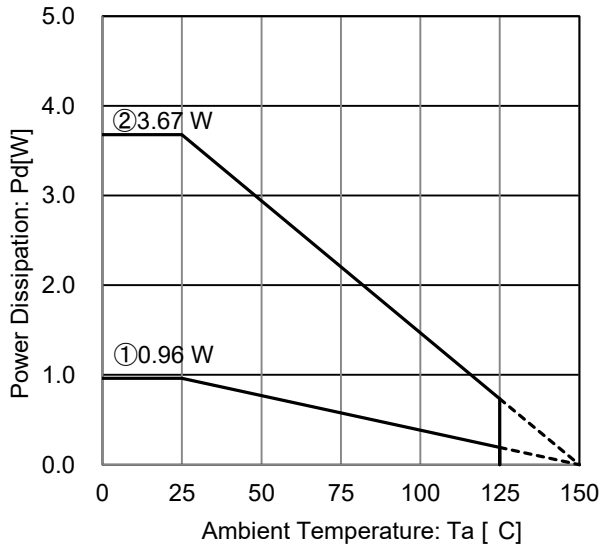
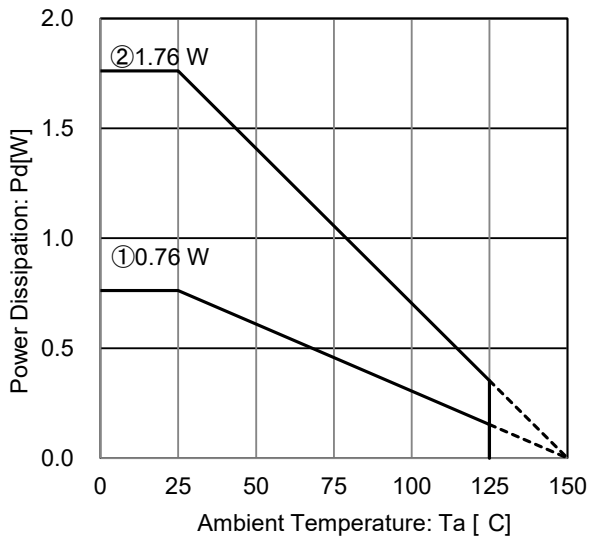

Figure 25. HTSOP-J8 Package Data
Figure 27. SOT223-4(F) Package Data
Refer to the heat mitigation characteristics illustrated in Figure 25 to Figure 27 when using the IC in an environment of $T_a \geq 25^\circ\text{C}$. The characteristics of the IC are greatly influenced by the operating temperature, and it is necessary to operate under the maximum junction temperature T_{jmax} .
At $T_a = 125^\circ\text{C}$ with Figure 25 ② condition, the calculation shows that ca 71.5mA of output current is possible at 10.2V potential difference across input and output.
At $T_a = 125^\circ\text{C}$ with Figure 25 ② condition, the calculation shows that ca 85.8mA of output current is possible at 8.5V potential difference across input and output.
At $T_a=125^{\circ}\text{C}$ with Figure 27 ② condition, the calculation shows that ca 34.3mA of output current is possible at 10.2V potential difference across input and output.
At $T_a=125^{\circ}\text{C}$ with Figure 27 ② condition, the calculation shows that ca 41.1mA of output current is possible at 8.5V potential difference across input and output.